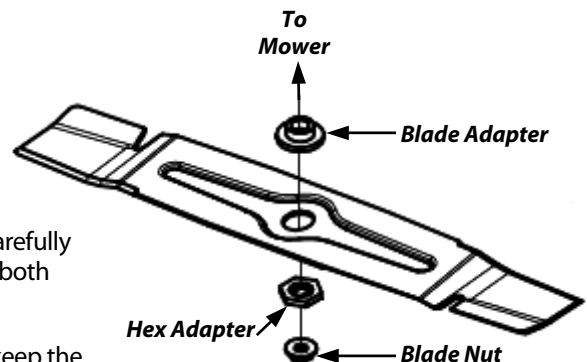

Figure 24
3. Remove the Blade Nut, Steel Hex Adapter, Blade, and Steel Blade Adapter in that order (**Figure 24**).
4. To install a sharpened Blade or a new Blade, reverse the order of step 3. Be sure to replace all parts exactly as you removed them (**Figure 24**) and make sure to properly seat the Blade.